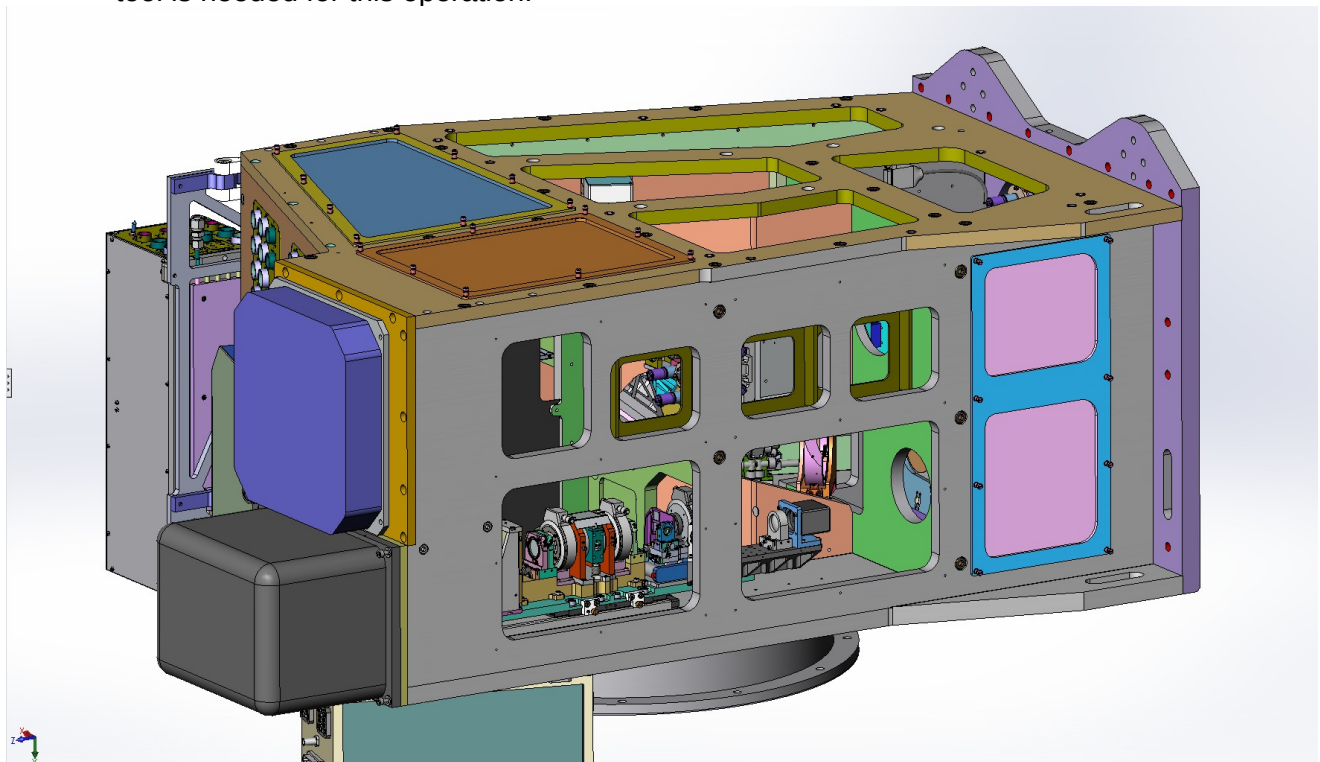

Figure 1.4. TurSim inside SAM.
5. Making sure all power is off, disconnect the TurSim motor control cables shown in Fig. 1.4. These are inside the instrument.